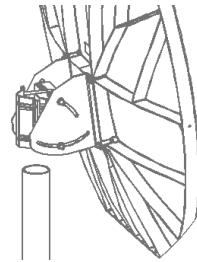

Fig 2.
2. Install the Az-Ez mount on the pole and tighten the bolts only lightly, see Fig 2.